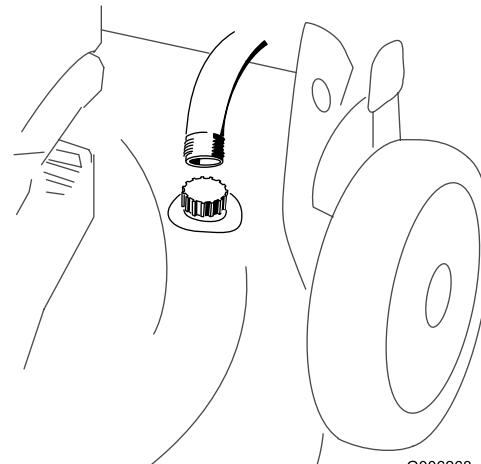

Figure 30
3. Attach a garden hose that is connected to a water supply to the washout port on the mower housing (Figure 30).